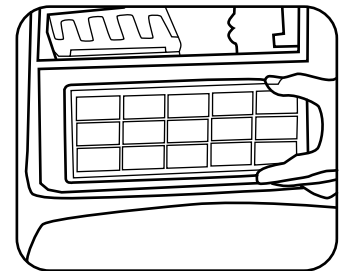

Fig. 6
2. Remove the HEPA media filter from the front of the bag compartment (Fig. 6).